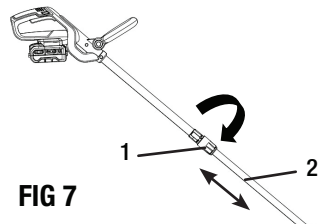

FIG 7
ADJUSTING THE HEIGHT (FIG 7)
To adjust the height of the trimmer, loosen the shaft coupler (1) by turning it clockwise as shown in Fig 7, move the bottom shaft (2) up and down to the desired length, tighten the coupler by turning it counterclockwise.